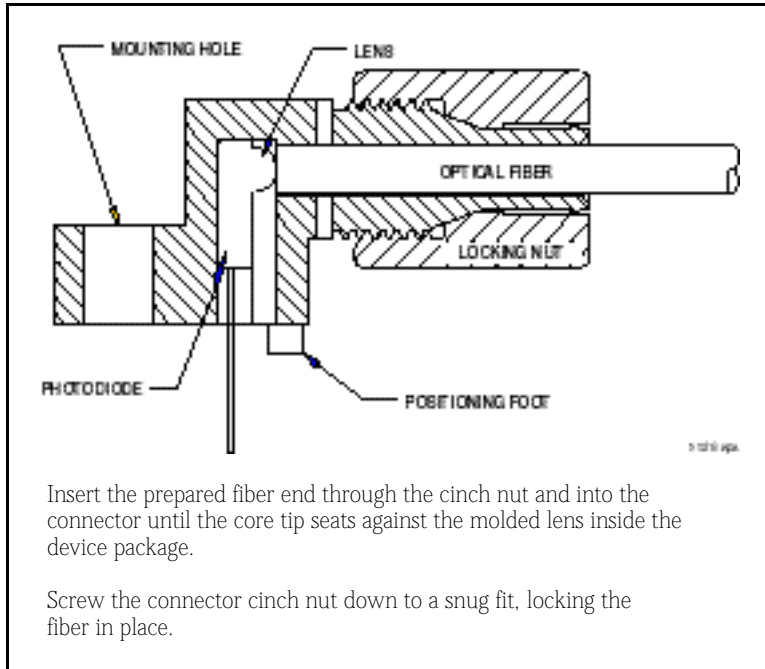

Figure 4. Cross-section of fiber optic LED and cable.
- A4. *Insert one end of the optical fiber into the fiber optic LED, following the instructions in Figure 4.*
Insert the unattached fiber end into the fiber optic phototransistor, following the same steps in **Figure 4**.